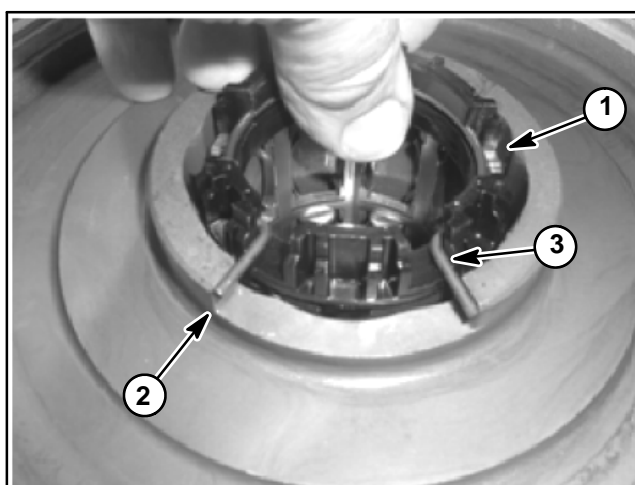

Figure 28
9. Align torsion spring on roller cage with the slot in the ring gear and then carefully lower the cage assembly into the ring gear bore (Fig. 28). The torsion spring must align and fit into the notch cut into the ring gear.
10. Install remaining nine (9) rollers into the top row of the roller cage assembly. Place the rollers in the roller cage slots and press them out toward the ring gear bore.